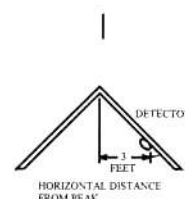

Figure 5: RECOMMENDED LOCATION TO MOUNT SMOKE DETECTORS IN ROOMS WITH SLOPED, GABLED, OR PEAKED CEILING
- If some of your rooms have sloped, peaked, or gabled ceilings, try to mount detectors 3 feet (0.9 meter) measured horizontally from the highest point of the ceiling as shown in Figure 5.